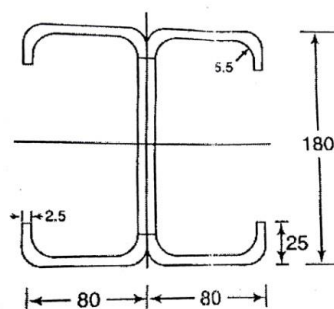

Figure 6
7. Two channels of 180mm X 80 mm sections with bent lips as shown in Figure 6 are connected with webs to act as a laterally supported beam. The thickness of plate is 2.5 mm and the depth of the lip is 25 mm. The beam has an effective span of 4.0 Determine the allowable load per metre run on the beam. Also Determine the deflection at the allowable load Take  $f_y=235$  N/mm2 and  $E= 2 \times 10^5$  N/mm2 [12M]